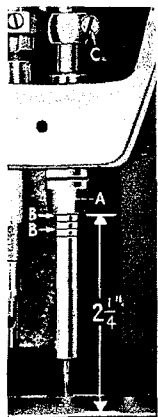
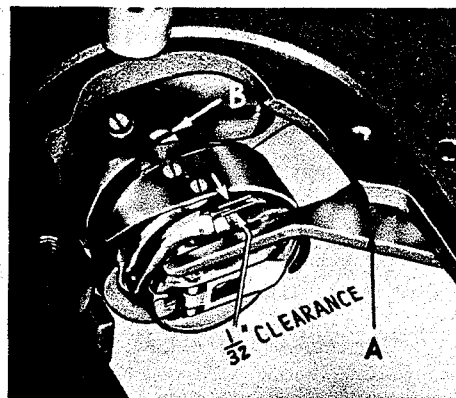

Fig. 11
Fig. 12
The lower needle bar bushing, the one to which the needle bar is timed, is set at the factory. The distance from the bottom of bushing (A, Fig. 11) to the throat plate seat is $2 \frac{1}{4}$ inches.
When the needle bar is at its lowest position, the upper timing line (B, Fig. 11) (of the pair selected) dependent upon the needle used, should be EVEN with the lower edge of the lower needle bar bushing (A).
The illustration (Fig. 11) shows the proper setting of the needle bar on Style 63400 A, using extra short length needle, Type 183 GXS or 183 GYS. The setting of the needle bar on Style 63400 B, using short length needle, Type 180 GXS or 180 GYS, is accomplished in the same manner, except that the lower pair of timing marks on the bar is used.
Tip the machine back so that it rests on the rest pin in the table top. Insert a new needle. Loosen the two screws and swing out the bobbin case positioning finger (A, Fig. 12). Loosen the three set screws (B) in the hook and hold the hook and bobbin case holder in such a position as to prevent interference with the needle. Turn the handwheel in operating direction until the needle bar is at its lowest position and continue to turn the handwheel until the needle is ascending and the lower timing mark (of the pair selected) (Fig. 11) used in setting the needle bar is even with the lower edge of the needle bar bushing (A).
Turn the hook on the shaft until the point of the hook is even with the center of the needle and as close to the needle as possible without deflecting it. A spacing of .003 to .005 inch between the needle and the point of the hook is satisfactory. With the hook in this position, tighten the set screw opposite the hook point securely. Then, tighten the two remaining screws securely and recheck the timing of the hook with the needle, at which time, the top of the eye of the needle should be about $1/64$ inch below the bottom of the hook point. If this condition does not exist, recheck the setting of the needle bar bushing in relation to the throat plate seat (Fig. 11).
Adjust the bobbin case holder positioning finger by turning the bobbin case holder until the finger recess is at the top. Place the projection on the finger into the bobbin case holder recess and tighten the finger attaching screws securely, allowing $1/32$ inch clearance between the outside edge of projection and the inside edge of bobbin case recess (Fig. 12).